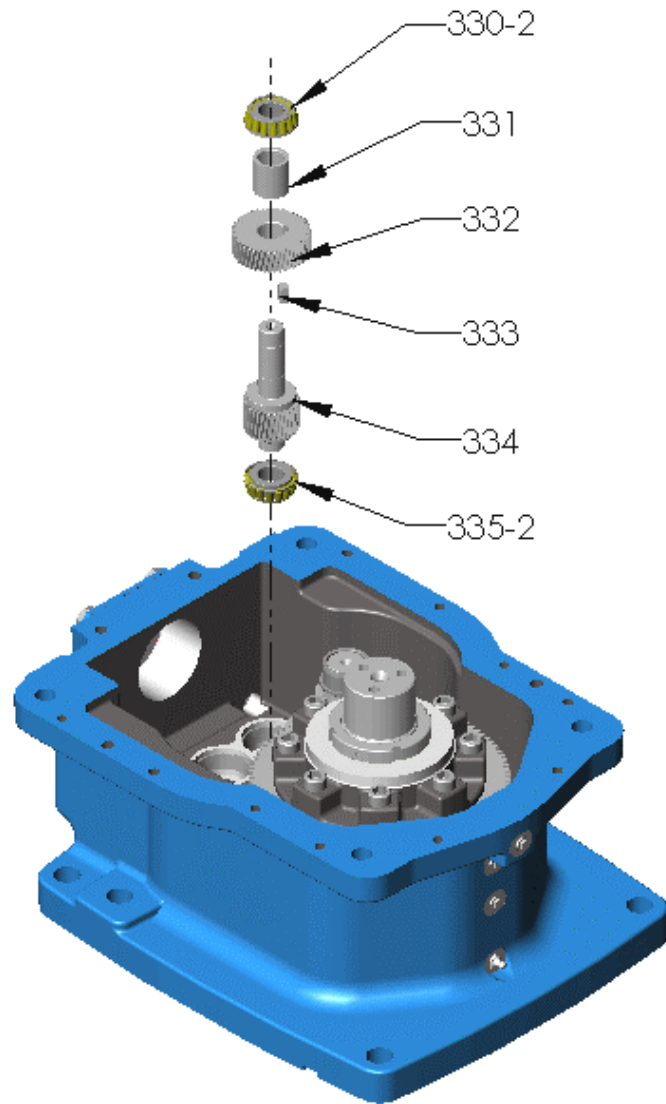

Figure 19 – 1st Intermediate shaft
- L. 1st intermediate shaft assembly (refer Figure 19):
- M. Install 1st intermediate shaft [334] in the bearing cup [335-1] in the case bottom (refer Figure 19).